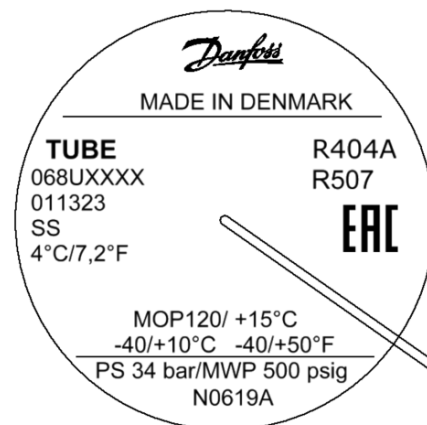
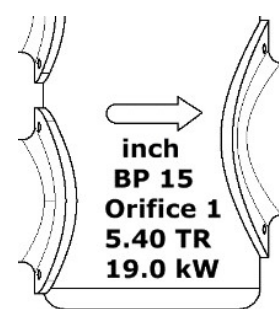
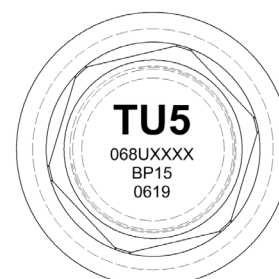

Fig. 1 Power element, TUBE
Fig. 3 Valve body, TUBE and TCBE
Fig. 4 TUA / TCA orifice
Main valve data is given on the power element (Fig. 1 and 2), on the valve body (Fig. 3) and on the orifice assembly (Fig. 4).
Power element, data example, Fig. 1 and 2:
Valve body, data example, Fig. 3:
Orifice assembly, data example (Fig. 4 and 5)
Angleway, Fig. 1
Static superheat (SS) can be adjusted by turning the setting spindle (3), see fig. 1 and 2 (TUB/TUBE/TCBE) Static Superheat cannot be adjusted on TUC/TUCE/TCCE.